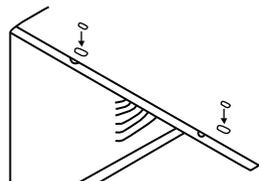

Fig. 6
9. Add two foam inserts to holes in top of cabinet where shipping screws were removed from. (See Fig. 6.)
1. Attach foam gasket to top angle above holes as shown in Fig. 6 on previous page.